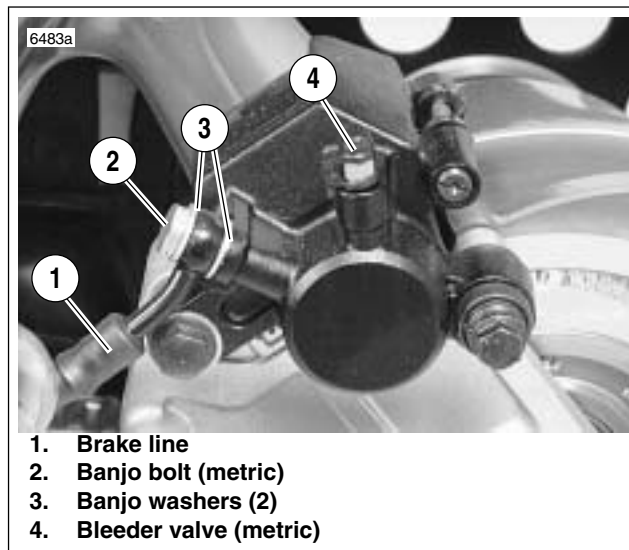
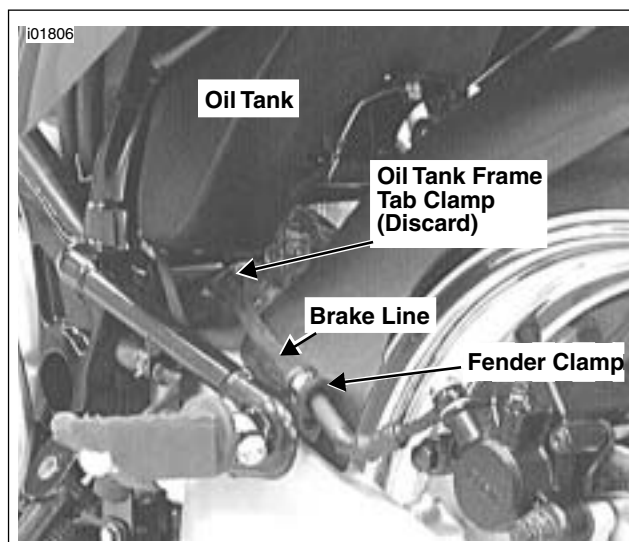

Figure 1. Rear Brake Caliper Banjo Bolt
Figure 3. Original Clamp and Brake Line
2. See Figure 1. Drain brake fluid into a suitable container. Discard used fluids according to local laws.
- a. Remove cap from rear caliper bleeder valve (4). Open bleeder valve (metric) about 1/2 turn.
3. See Figure 3 and 6. Remove and retain brake line fender clamp and hardware from rear inner fender. Remove rear inner fender. See Section 2 of appropriate Service Manual.
4. See Figure 1. Remove banjo bolt (2) (metric) and two banjo washers (3) to disconnect brake line (1) from rear brake caliper. Discard banjo washers.
6. See Figures 3 and 6. Remove screw to detach brake line clamp from lower left oil tank frame tab. Retain the bolt and washer for re-use. Discard clamp.
8. See Figure 1. Connect brake line (1) to caliper with two **new** banjo washers (2) and banjo bolt (1) (metric). Tighten to 16-20 ft-lbs (21.7-27.1 Nm).